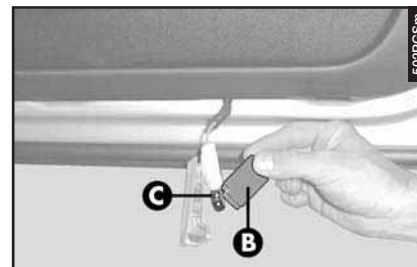

fig. 79
– Press on the side of the screen (**B-fig. 79**) in correspondence with the two fastening pins and turn it.
– Change the bulb (**C-fig. 79**) which is pressure-fitted.